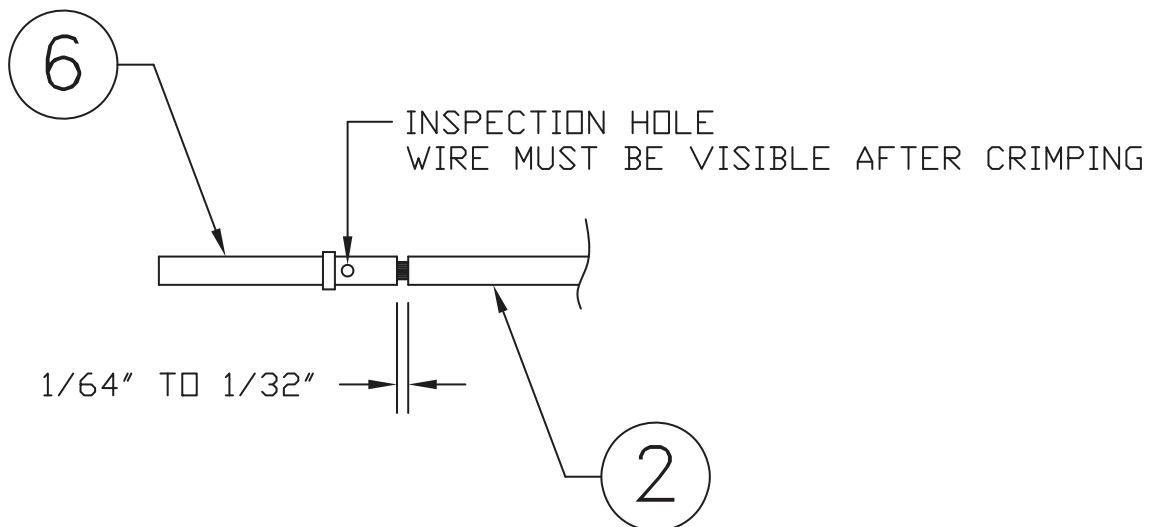

Figure 22-3 Insulation/Contact Clearance
5. Strip back approximately 0.17 inches of insulation from each wire of the shielded cable (item 2, Figure 22-3) and crimp a contact (item 6, Figure 22-3) to each conductor. It is the responsibility of the installer to find the proper length of insulation to be removed. Wire must be visible in the inspection hole after crimping and the insulation must be 1/64 – 1/32 inches from the end of the contact as shown in Figure 22-3.
2. Strip back approximately 0.17 inches of insulation and crimp a contact (item 6, Figure 22-3) to the 4" length of 22 AWG insulated wire. It is the responsibility of the installer to find the proper length of insulation to be removed. Wire must be visible in the inspection hole after crimping and the insulation must be 1/64 – 1/32 inches from the end of the contact as shown in Figure 22-3.